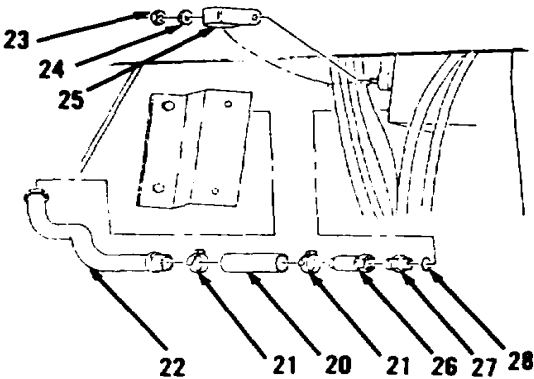

Figure 10-168.
- 6. Remove connector (12), preformed packing (13), connector (14) and preformed packing (15). Discard preformed packings (13 and 15).
- 7. Remove connector (16), preformed packing (17), connector (18) and preformed packing (19). Discard preformed packings (17 and 19).
- 8. Loosen two clamps (21, Figure 10-168).